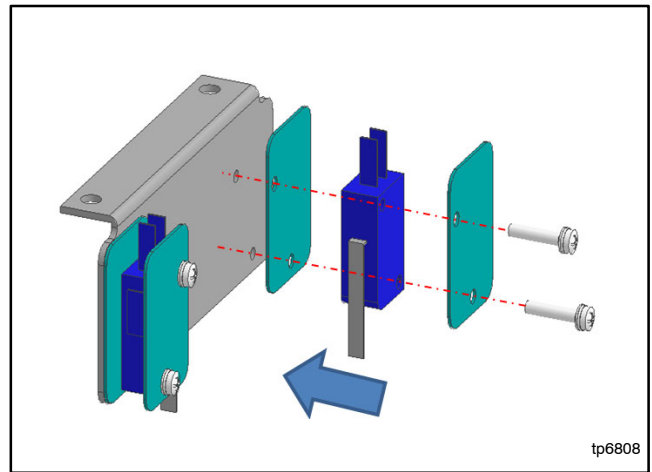
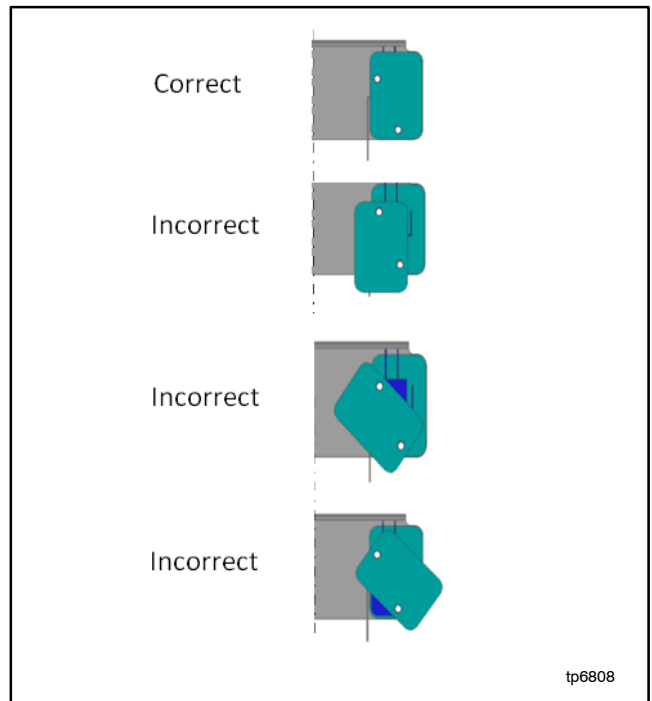

Figure 7-45 Microswitch Assembly
Figure 7-46 Microswitch Separator Orientation
1. Install the two M3 screws after placing a separator, a microswitch, and the second separator in this order. See Figure 7-45. See Figure 7-46 for the correct orientation of the separators.